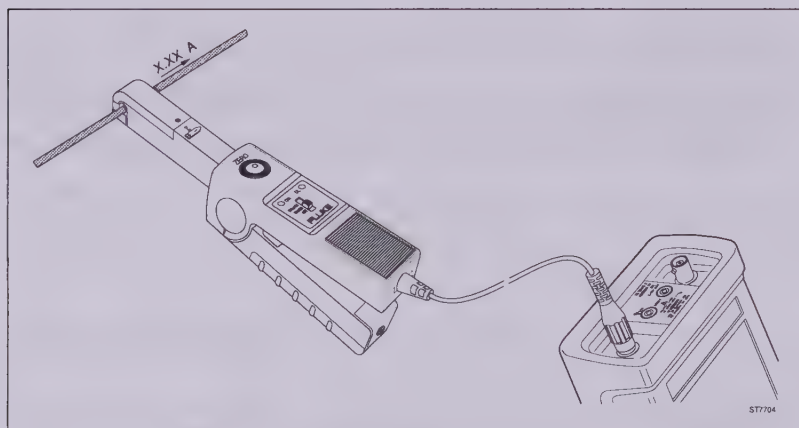

Figure 4. Measuring Setup
2. On the Current Probe, select the least sensitive range (10 mV/A). Ensure that the green ON-indicator lights. See Figure 4 for selector switch and green ON-indicator locations.
3. On the Current Probe, rotate the ZERO thumbwheel to adjust the probe reading to zero. See Figure 4 for the ZERO rotary knob location.
A measuring setup using the Current Probe and a ScopeMeter test tool is shown in Figure 4.